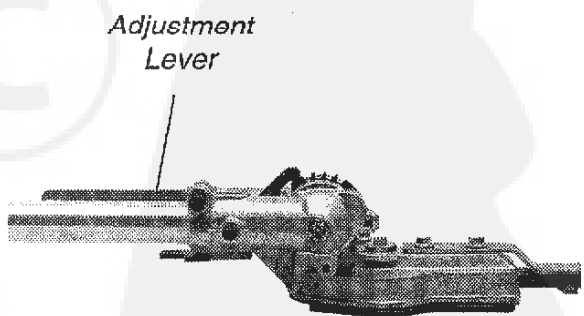

Figure 17
3. While holding the latch lock down, pivot the cutter assembly using the adjustment lever until it is straight with the outer tube (pivot 180°). See Figure 17.